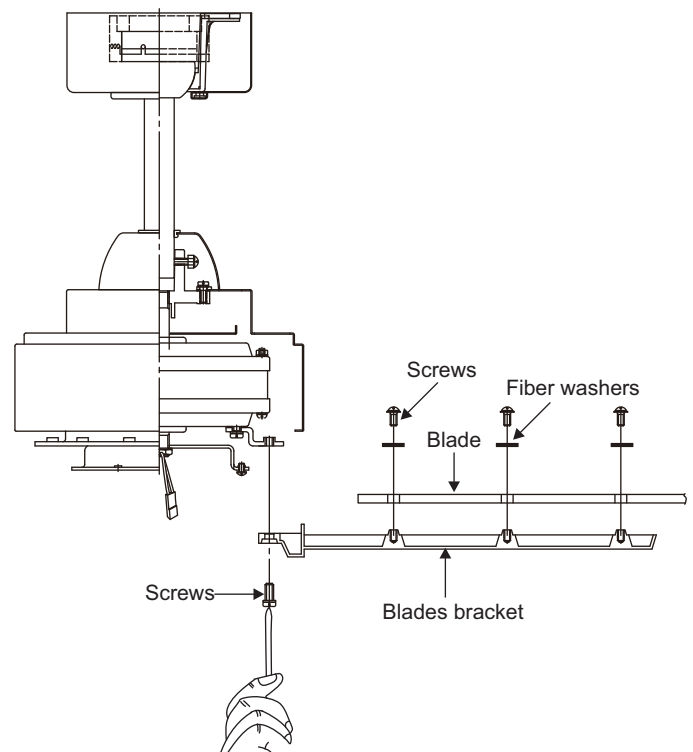

Figure 11
Step 3. Fasten blade assembly to motor using the screws supplied. (Fig. 11)